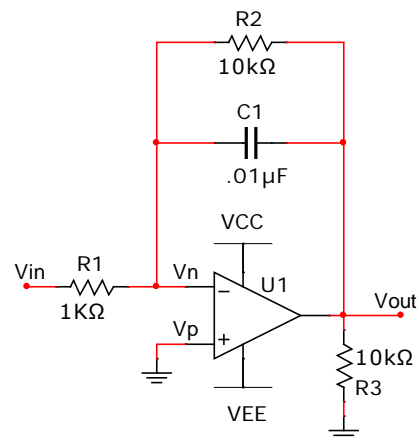
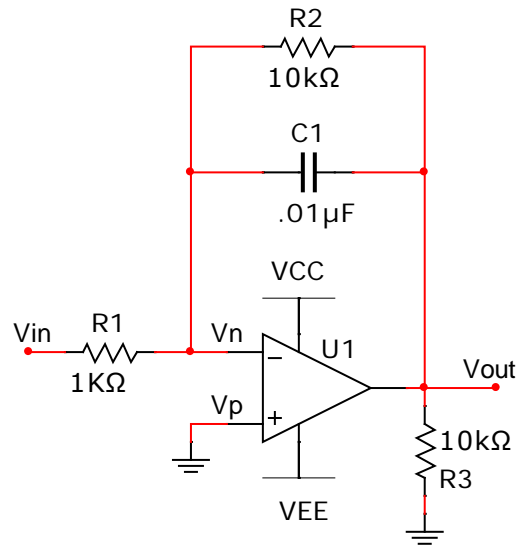

Figure 5. Low-pass filter.
Figure 16. Low-pass filter.
1. Analyze the low-pass filter circuit in figure 16 (same as figure 5) to show that for $V_{in}(t) = A\cos(\omega t)$: